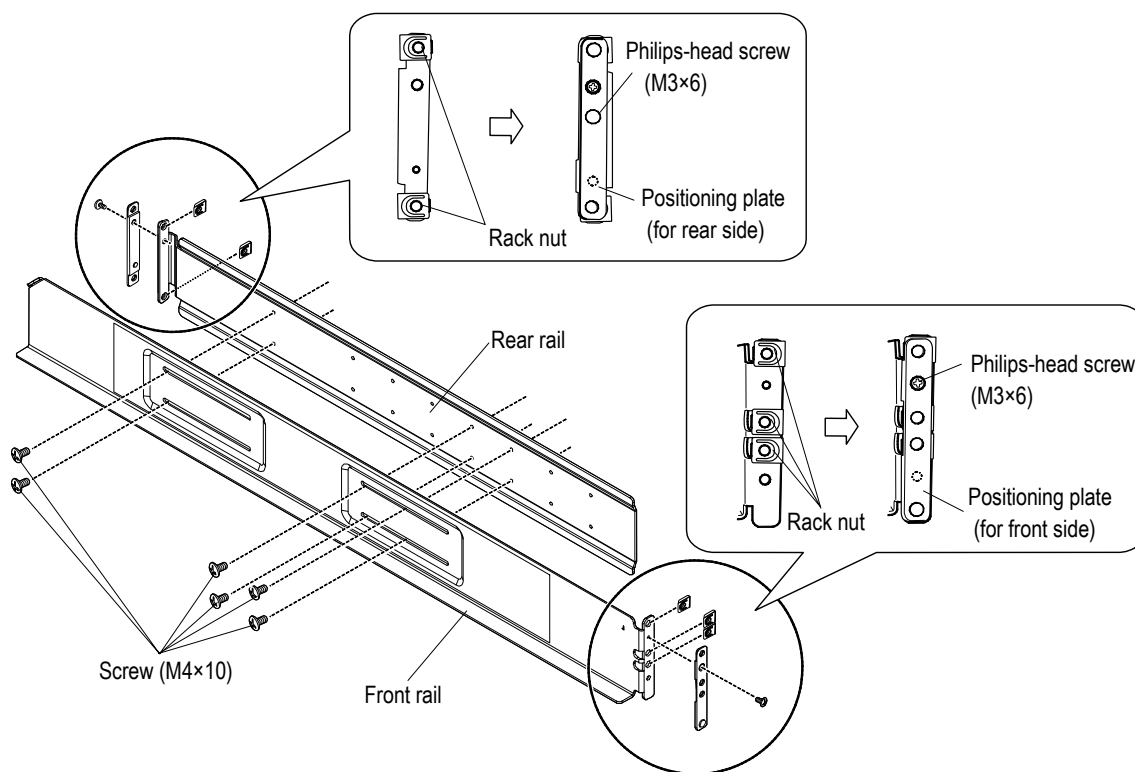

Figure 2.2.18 Installing Rack Rails (Circular Hole) for Controller Box (3U)-1
• Rear rails have no distinction between (R) and (L).
- (i) Install three rack nuts in the front rail (R) (See Figure 2.2.18).
- (ii) Attach the positioning plate (for front side) to the front rail (R), and then fasten it with one Philips-head screw (M3×6).
- (iii) Install two rack nuts in the rear rail (See Figure 2.2.18).
- (v) Fix the front rail (R) and the rear rail temporarily with six screws (M4×6) (See Figure 2.2.18).